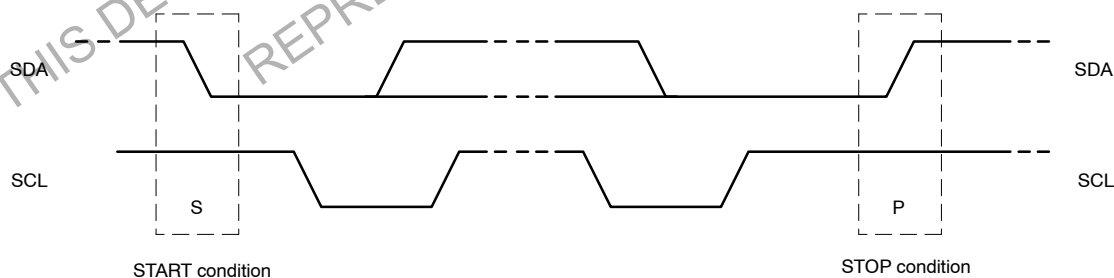

Figure 15. Definition of START and STOP Conditions
HIGH. A STOP condition (P) occurs when there is a LOW-to-HIGH transition of the data line while the clock is HIGH (see Figure 15).